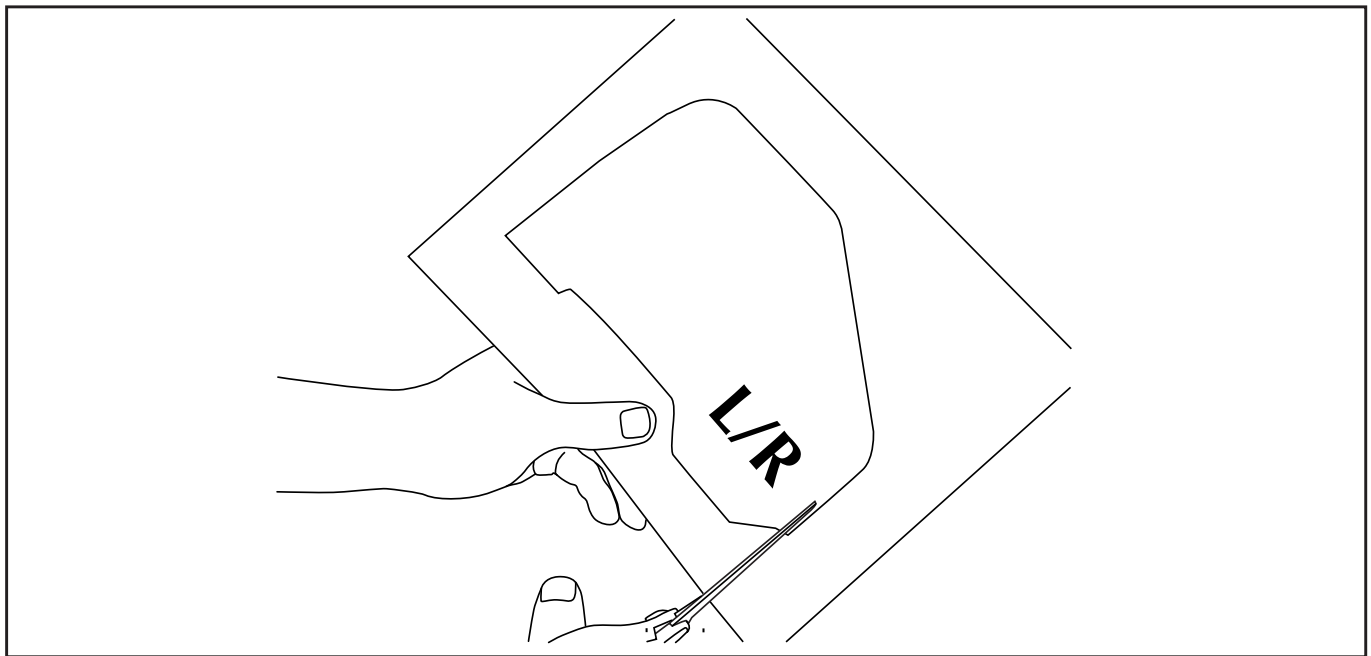

Fig. 5
6. Cut out paper templates (Fig. 5).